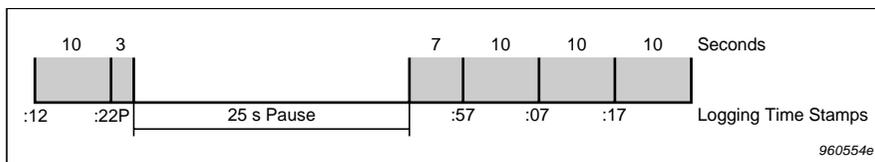

Fig.5.9 An example of logging times with pause intervals
- When a pause is activated (for example, 3 seconds after a measurement period has started) the measurement will immediately stop. When pause is deactivated, the measurement will continue and ends when a total of 10 seconds has expired (7 seconds later). This is independent of the duration of the pause. The measurement period therefore has been broken into two parts with a pause in between (see Fig. 5.9).
- Time periods in which a pause has occurred will be marked with a P in the print-out. For example, the measurement marked :22P in Fig. 5.9.